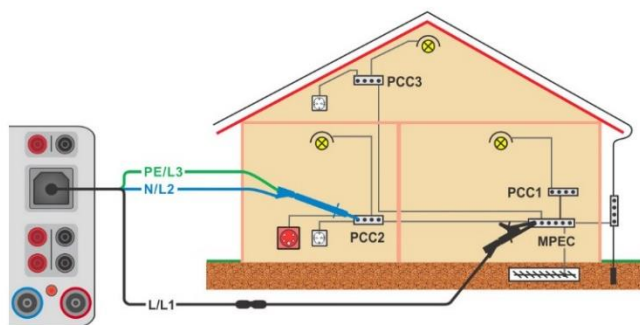

Figure 6.111: Connection of 3-wire test lead plus optional Extension lead
- › Connect test leads, see **Figure 6.111**.